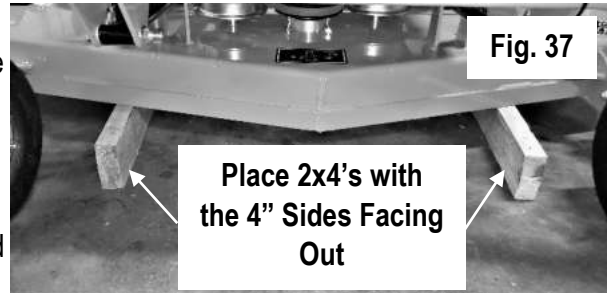

Fig. 37
2. Using a pair of approximately 3 ft. long 2x4's, stand the boards on edge and slide them under the deck from front to back as shown in Fig. 37. Making sure the deck wheels and blade bolts do not rest on the 2x4's, and that the front and back edge of the deck rest on the 2x4's.